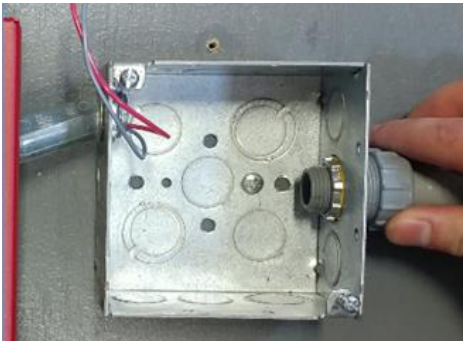

Figure 13.5
7. See **Figure 13.5** Attach raceway to signal horn box at appropriate knockout. Install raceway from factory installed Signal Horn back box to additional Signal Horn. **NOTE:** See Table 4 for distance limitations.